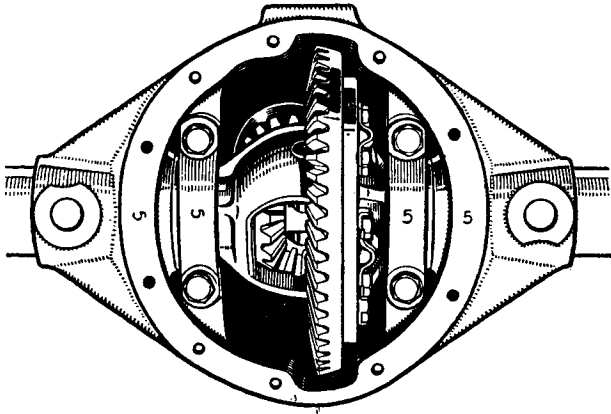

Fig. 18. Differential bearing cap markings.
- (8) Lower the differential assembly into position, lightly tapping the bearings home with a hide hammer, whilst ensuring that the gear teeth are led into mesh with those of the pinion. Careless handling at this stage may result in bruising the gear teeth, and removal of the consequent damage can only be partially successful and result in inferior performance.
- (8a) Install the differential bearing caps, taking care to ensure that the position of the numerals marked on the gear carrier housing face and the caps correspond, as indicated in Fig. 18. Finally tighten the bolts securing the bearing caps.
- (9) When refitting the bearing caps, be sure that the position of the numerals marked on the gear carrier housing face and the caps correspond as indicated in Fig. 18. Tighten the caps lightly, remove the stretching fixture, then finally tighten the bolts securing the bearing caps. Then continue with operation (10).